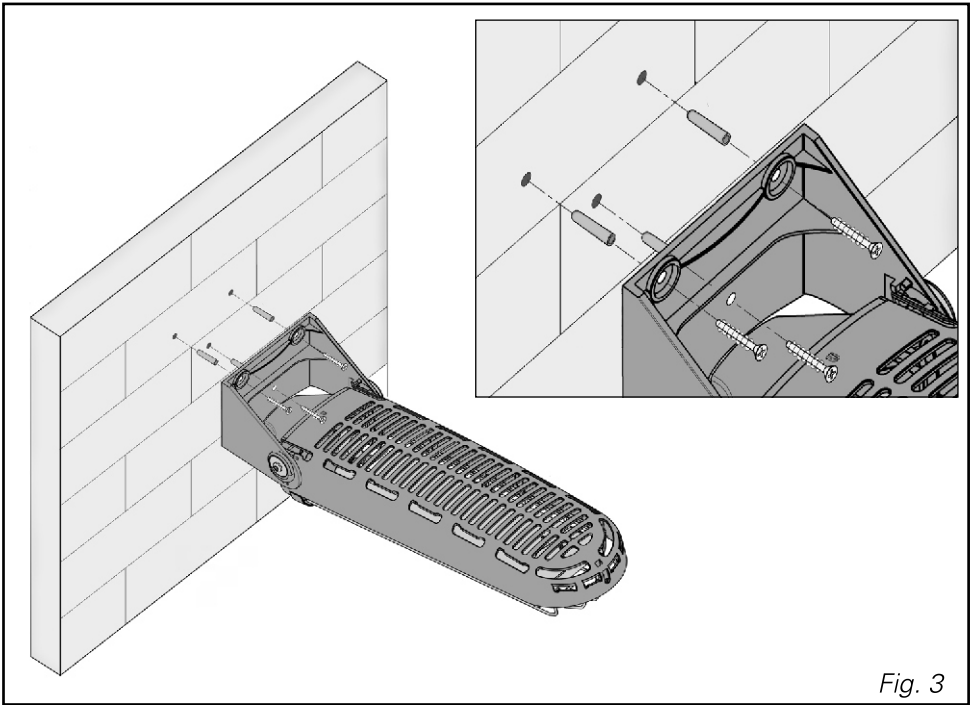

Fig. 3
- **Wall mounting bracket** (fig. 3). Before drilling the holes for the dowels, be sure that the wall is solid and that you are far from water tubes or electrical wires. For fixing the appliance at the wall, drill 3 holes with a 5 mm diameter bit and fix the wall bracket (fig. 2-A) that you find in the box by proper dowels and screws, ensuring that the slots (fig. 2-D) be at the bottom. Then adjust the angle of the appliance; at last make it firm tightening the sideward screws (fig. 2-C).